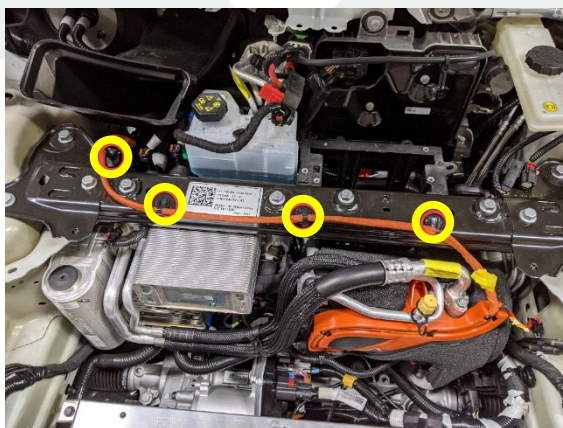

Figure 44
35. Fasten the clips (x4) that attach the HV harness to the shock tower brace (Figure 44).